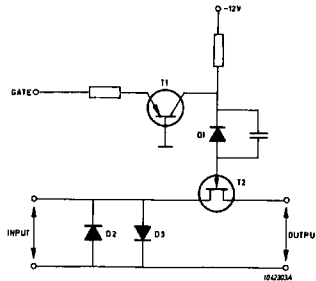

Fig. 5-3 Electronic Switch
1.3 ELECTRONIC SWITCH (figure 5-3)